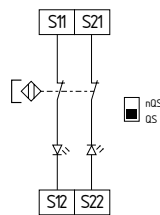

Fig. 15
**Dual-channel control of magnetic safety switches according to IEC 60947-5-3 (see Fig. 15)**